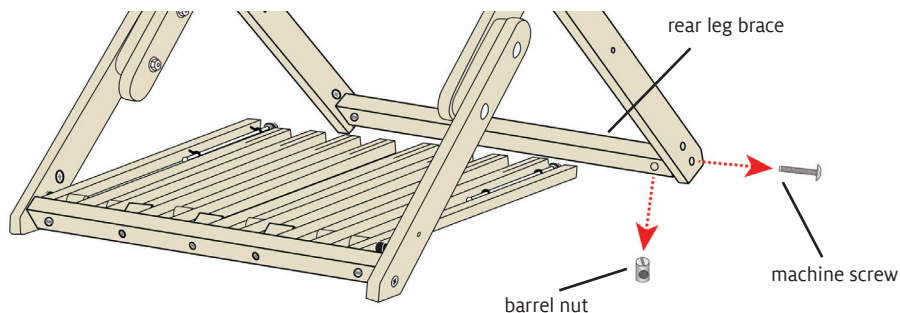

FIGURE 1: REMOVE REAR LEG BRACE
2. Unscrew the machine screws in the outside legs from the barrel nuts in the rear leg brace (Figure 1). Save the barrel nuts and screws for step 5.